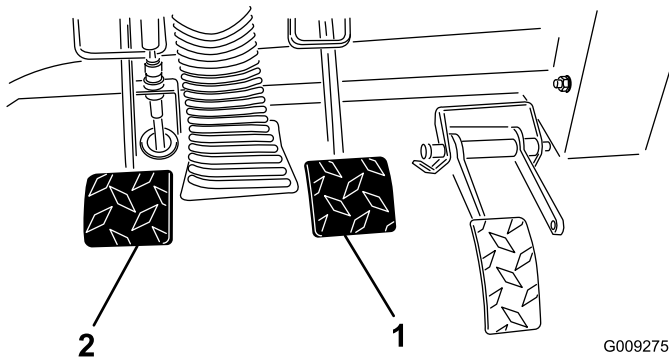

Figure 69
2. Lift up on the brake pedal (Figure 69) until it contacts the frame.